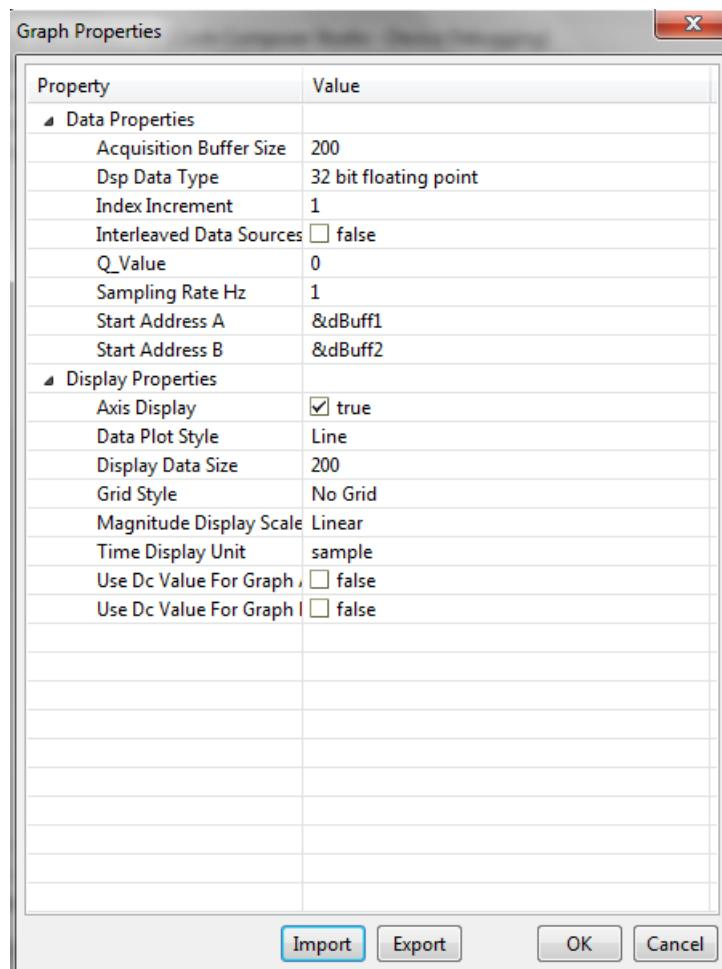
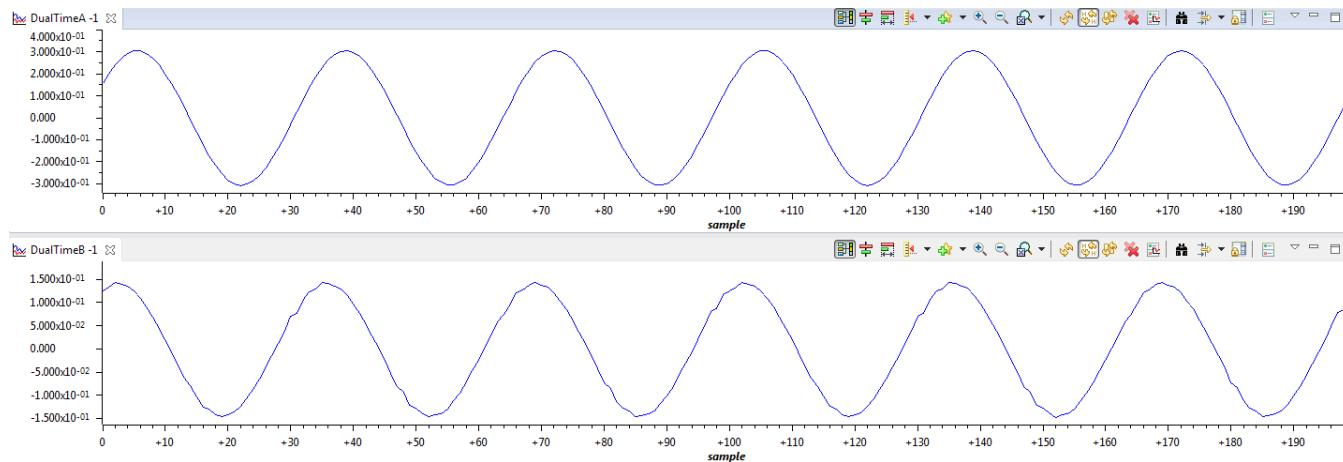

図 23. Graph Settings
図 25. Build Level 1 Graph.1.GraphProp File Showing Measured Per-Unit Voltage and Current Values
8. Alternatively, the user can enter the values as shown in 図 23.
図 25 shows the graph window inside CCS that was set up previously (see 図 23). The measured voltage and current AC waveform can be observed on these graphs.
図 25 shows the graph imported in the build level 1 through the graph1.graphprop file, displaying the measured per-unit voltage and current values.